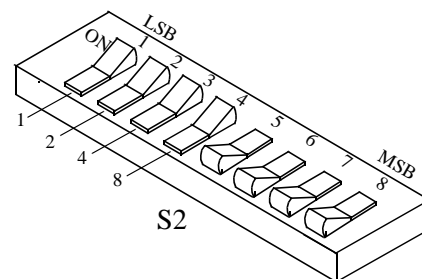

Figure 1-22 MLM S2 GATE AND TRANSMIT
1. **In the MLM** drawers set S2 as shown in Figure 1-22 and reset the MLM by pressing S8 momentarily. This enables the Repeat gate, Logic Squelch gate and the Transmitter.